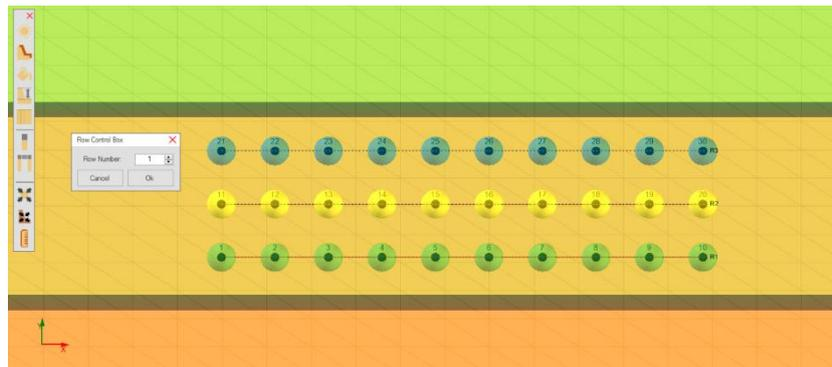

Fig. 221 - Line Editor: Hole by hole
- **Hole by hole:** The user must define the row number in the **Row Control Box** and drag the mouse over a hole to assign a row ID (Fig. 221).